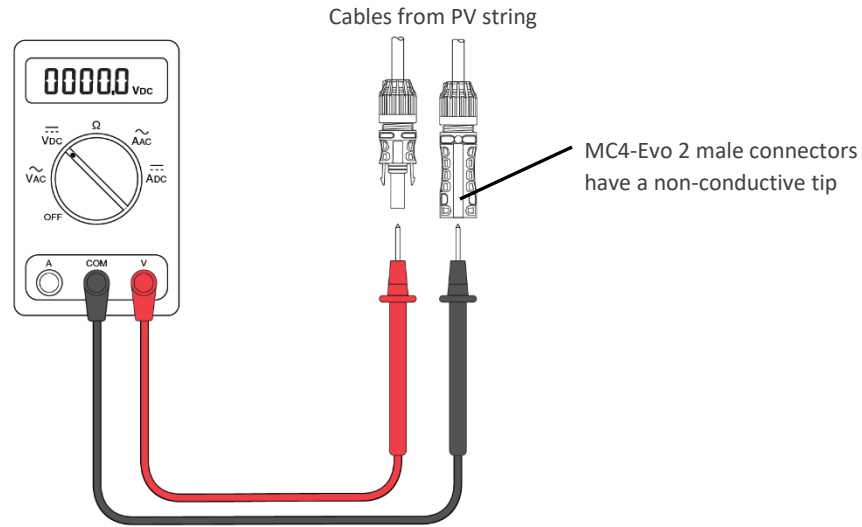

Figure 13: Check the polarity and gender for PV string
7. Follow your safety procedures and protocols and use an appropriately rated multimeter to measure the voltage and verify the polarity for the string(s) of modules being connected to Input 2. See Figure 13.